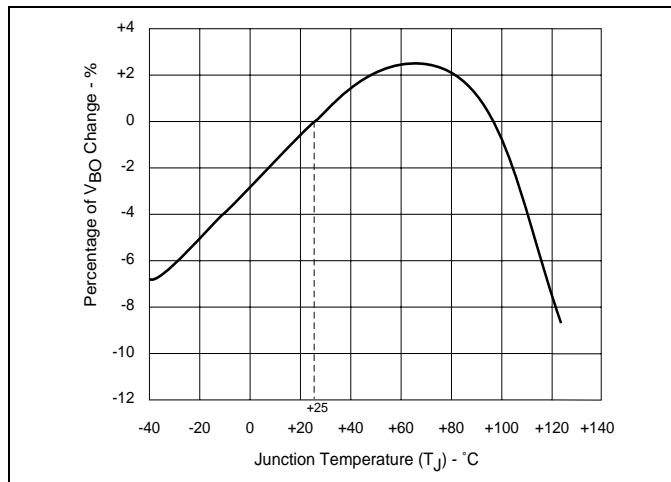

Figure 9.5 Normalized  $V_{BO}$  Change vs Junction Temperature
- See Figure 9.5 for  $V_{BO}$  change vs junction temperature.